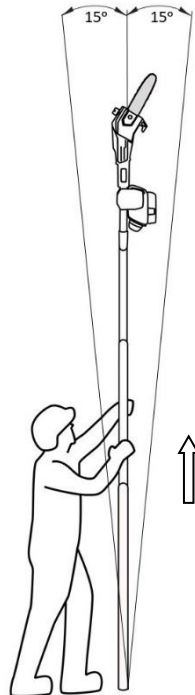

Fig. 20
- It is forbidden to deflect the stick from the vertical by an angle greater than 15° during lifting (Fig. 20).